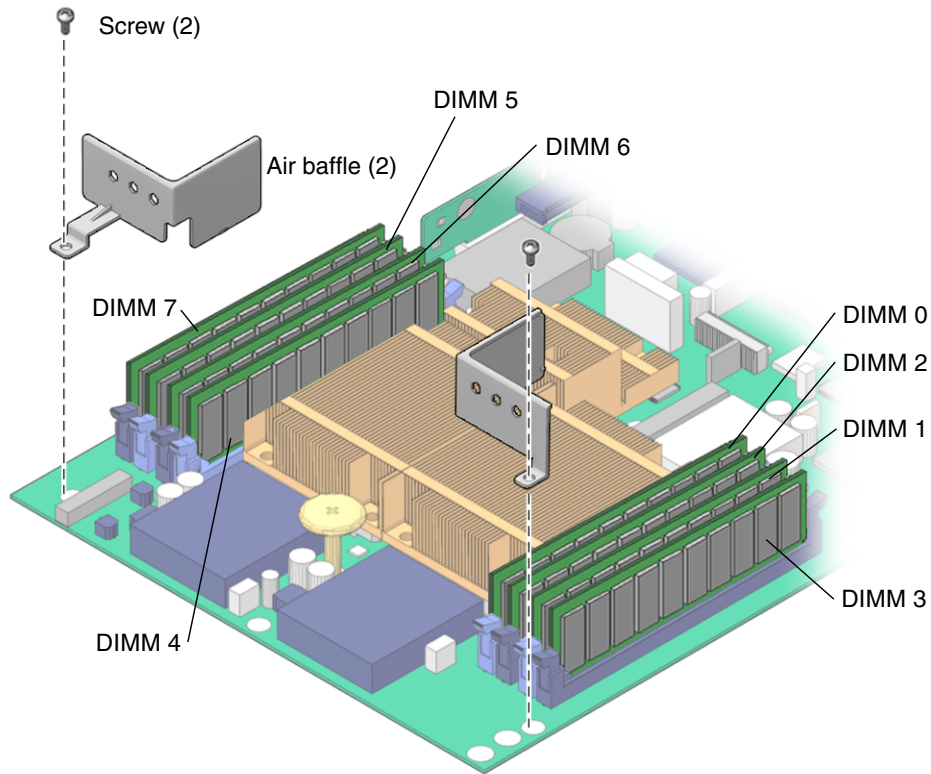

FIGURE 3-15 Removing the Air Baffle – Sun Fire V215
6. **Locate the DIMMs that you want to replace (See FIGURE 3-15 and TABLE 3-1).**
7. (Sun Fire V215) Remove the screws and air baffles for the DIMMs you want to remove (FIGURE 3-15).
7. **(Sun Fire V215) Reinstall the screws and the air baffles (FIGURE 3-15).**
11. (Sun Fire V215) Remove the screws and the air baffles (FIGURE 3-15).